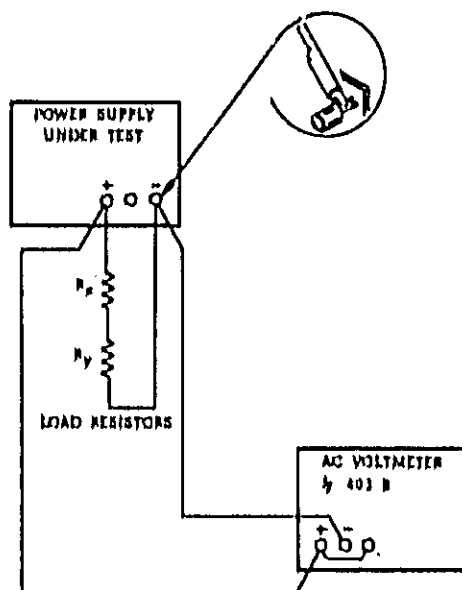

Figure 5-6. Ripple and Noise, Constant Voltage
a. Retain test setup used for previous line regulation test except connect AC voltmeter across output terminals as shown in Figure 5-6,